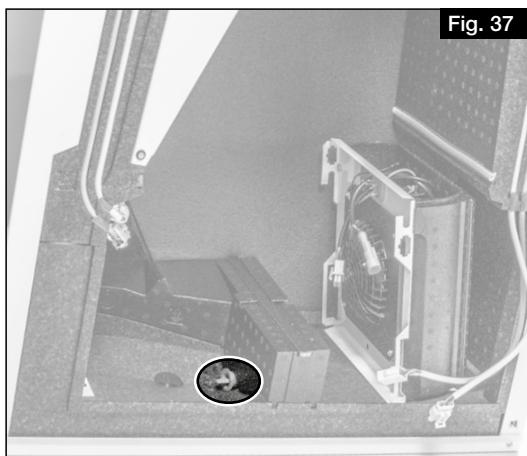

Fig. 37
- ① **If the cold recovery system is activated, the plug at the bottom of the unit must be removed (see Fig. 37) to**